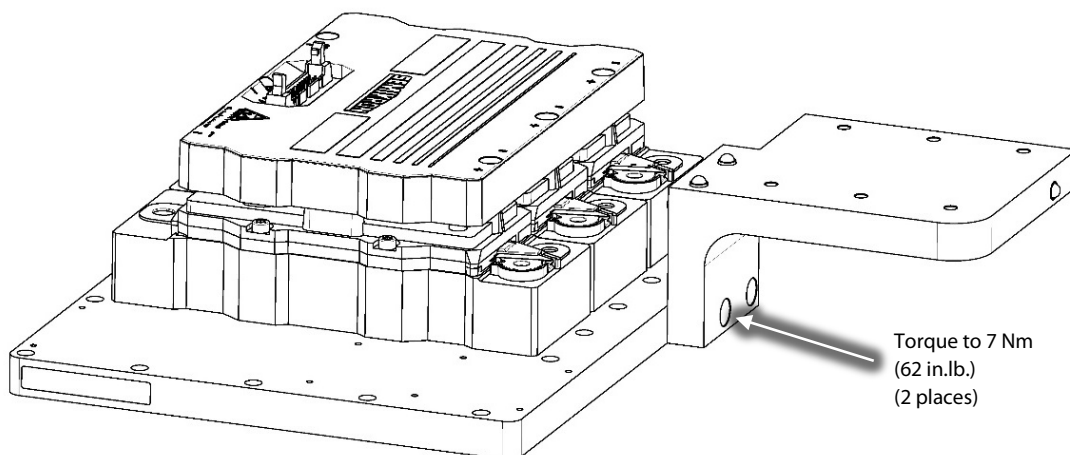

Figure 19 – SCR Cooling Manifold Removal
30. Carefully remove the SCR cooling manifold foam insulation in order to gain access to the two (2) screws shown in Figure 19 (SCR Cooling Manifold). Retain for use with the new Inverter assembly.
**NOTE:** Do not completely remove the foam insulation, only pull back what is needed to access the two (2) screws.
31. Remove the two (2) screws indicated in Figure 19 (SCR Cooling Manifold) and carefully remove the SCR Cooling Manifold. Retain for use with the new Inverter assembly.